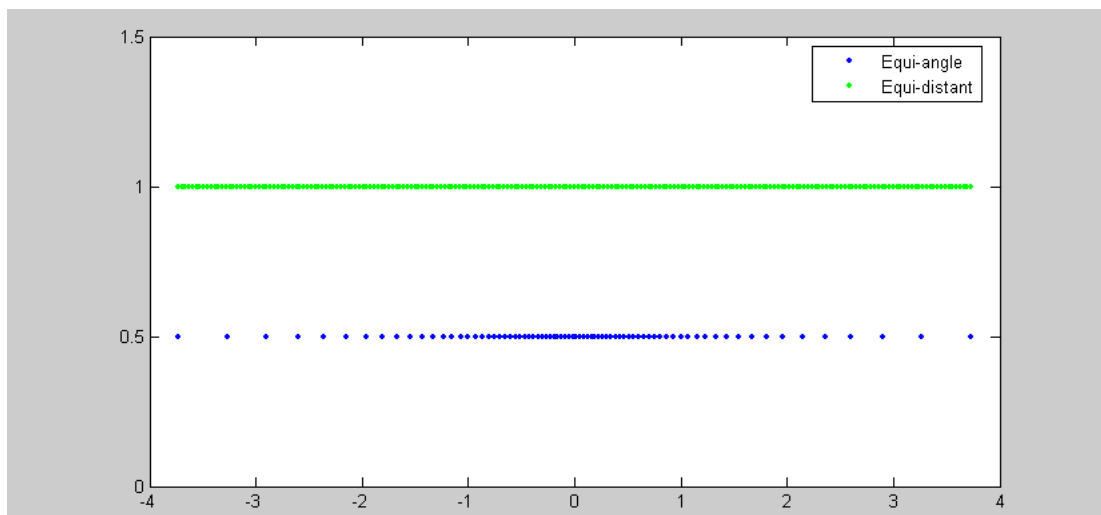

Figure 32: Across-Track Sounding Location on a Flat Bottom
*Figure 32* shows the difference in distribution between equiangular and equidistant spacing.